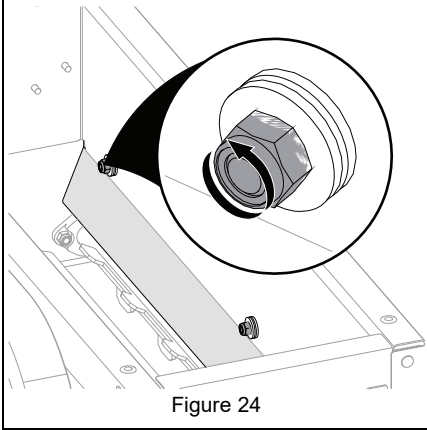

Figure 24
3. Loosen hardware securing flap agitator to hopper. See Figure 24.